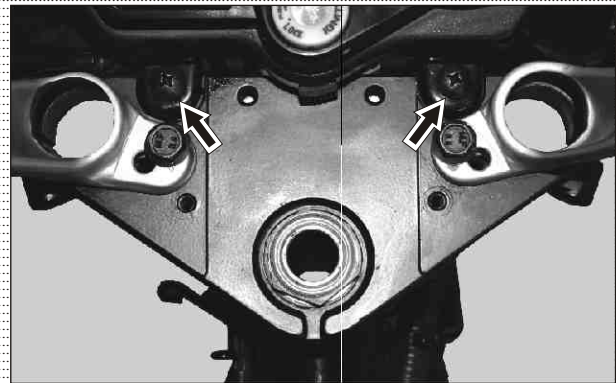

Fig. 6.59
- Remove bracket complete head lamp housing along with turn signal lamps L & R, housing head lamp rear L & R and speedometer assembly as sub assembly by removing mounting screws (M6x20 - 2 nos). (Fig. 6.59)